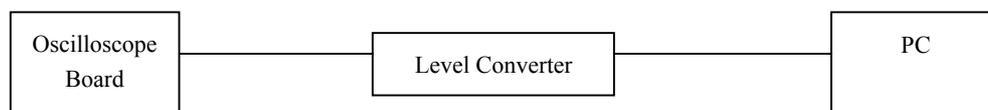

Fig. 3
- 2) Connect the other end of the level converter to PC (Fig. 3).